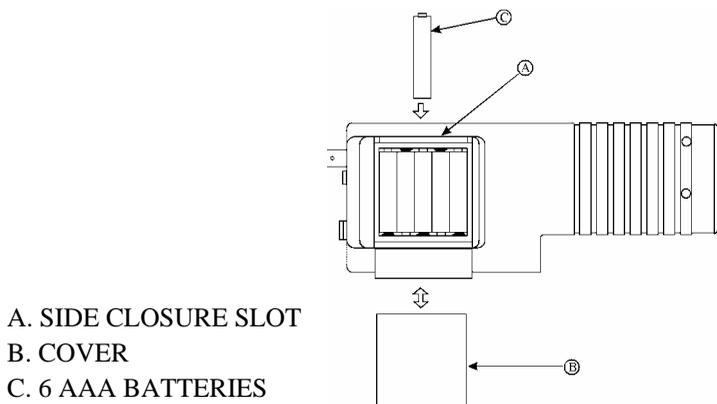

FIGURE 2 REAR VIEW (BATTERY COMPARTMENT)
1. Position the meter so that the left side of the meter is facing up. (**Refer to Figure 2**) With a coin, inset it in the closure slot on the side labeled **A**. With the coin tilted, thrust it upward to open the battery compartment and lift the cover up.